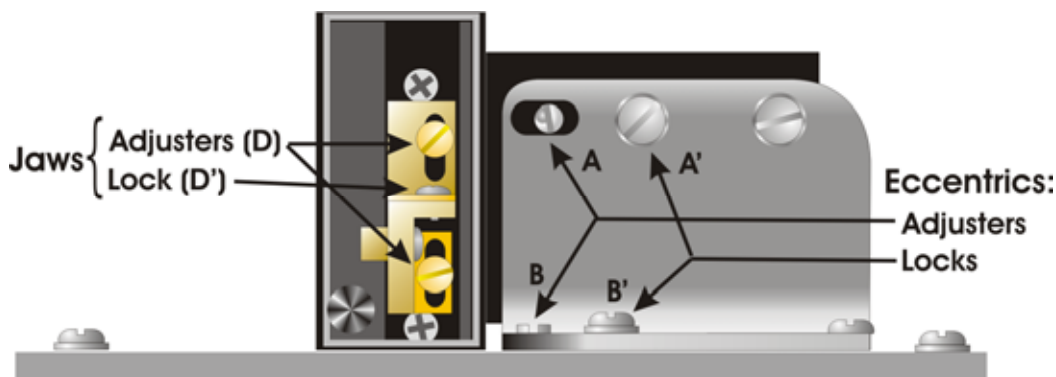

Figure 4-2. Filament alignment.
2. Loosen the two clamp screws (**D' in Figure 4-2, only one shown**) that hold the filament in place, and then slide out the old filament.
2. Locate the aluminum angle plate to the right of the filament assembly and behind the right puller bar. Two chrome eccentric screws (**A and B in Figure 4-2**) in slots are mounted on this bracket, one located on the vertical face of the bracket and one on the horizontal face. Identify the flathead locking screws to the right of each chrome screw.